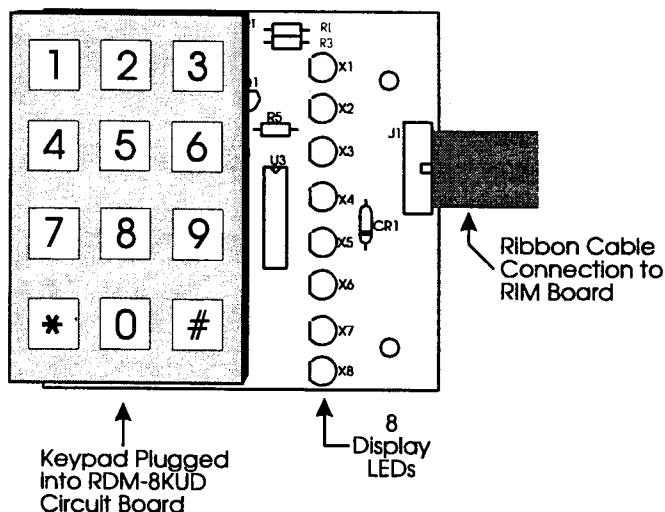

Figure 3-27. RDM-8KUD REMOTE DISPLAY MODULE With KEYPAD
The RDM-8KUD (Figure 3-27) is an eight (8) zone, LED status display device in conjunction with a 12-key digital keypad. The LED display portion of the RDM-8KUD looks and functions exactly the same as the RDM-8R, showing the real-time status of the eight (8) alarm input zones of the RIM board it is attached to. The Keypad is used as the Arming Station to Arm and Disarm (Enable and Disable) the Intrusion/Burglar alarm zones of the attached RIM (and subsequent RIMs as applicable).